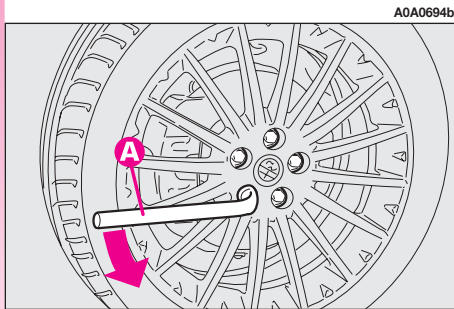

fig. 5
– Using the wrench provided (**A-fig. 5**), loosen the fastening bolts by about one turn.